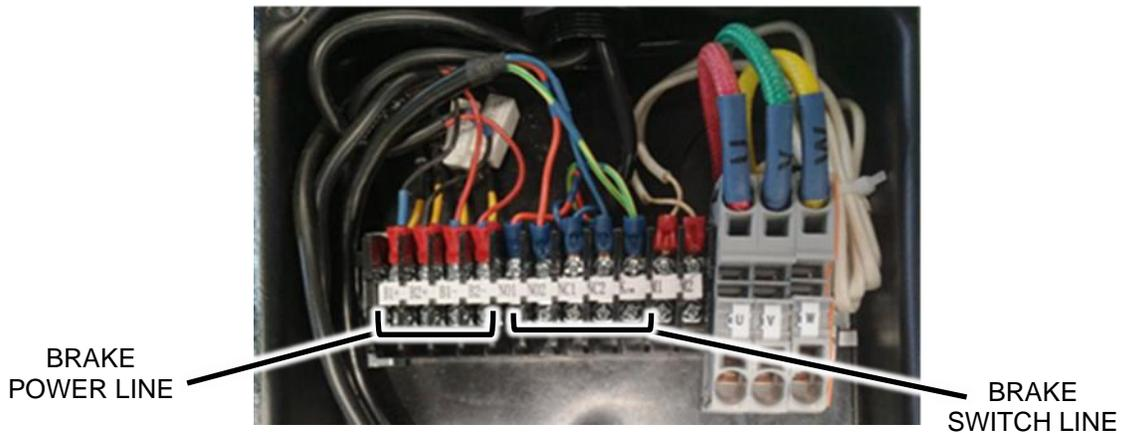

Figure 41
3. On the machine side disconnect the Brake and Brake Switch wires for the brake that is to be worked on (Figure 41).